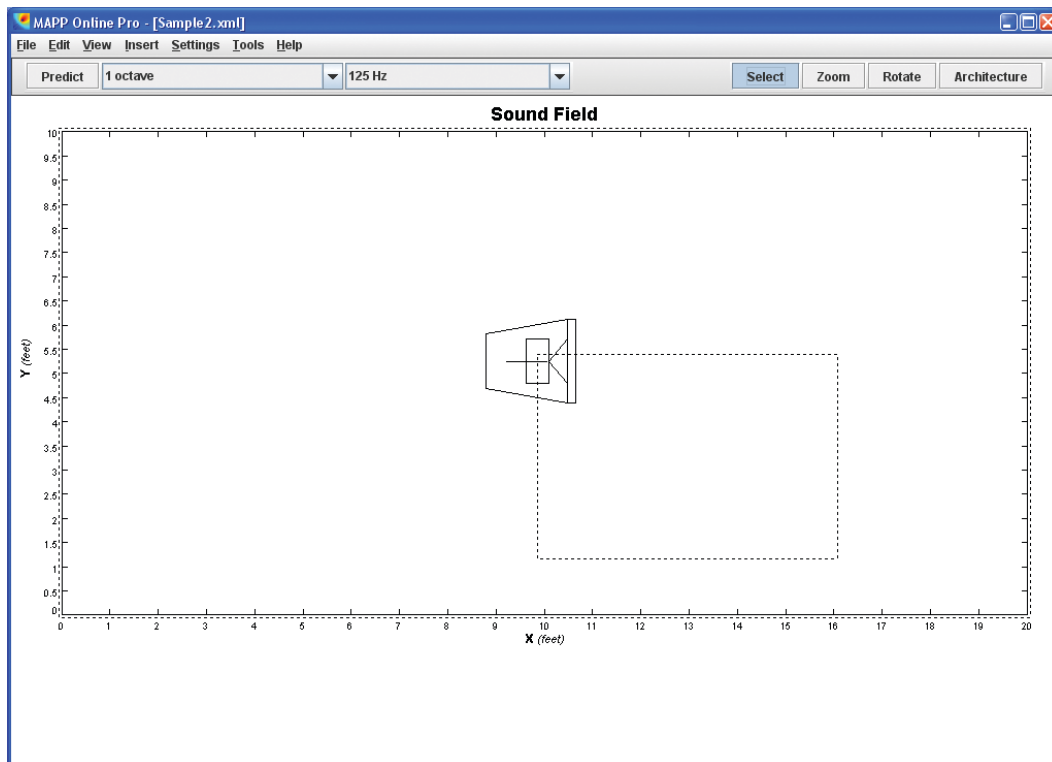

Figure 10. Selecting objects by crossing object with a selection rectangle
6. If any part of the selection rectangle crosses over an object in the workspace, that object will be selected and shown in dashed lines (Figure 10).